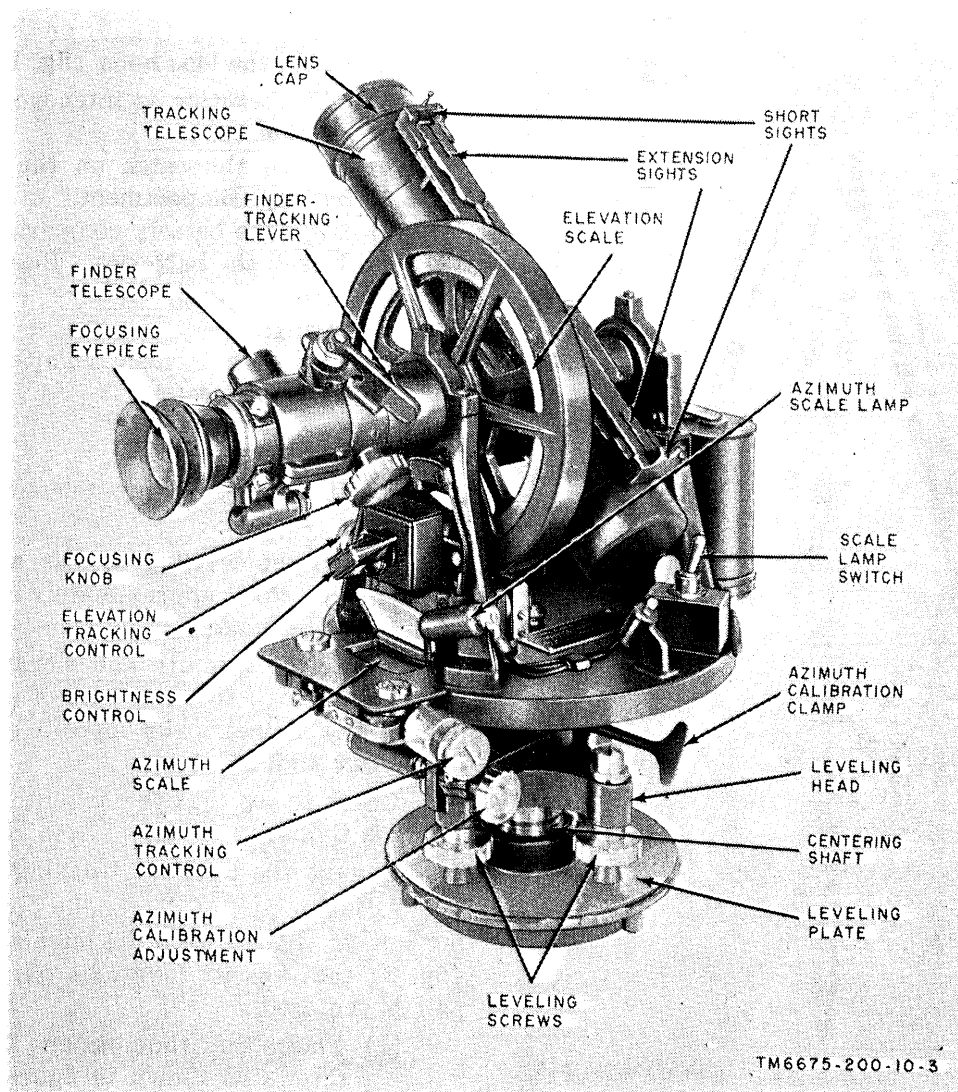

Figure 4. Theodolite, view of controls, scales, and indicators.
12. Orienting Controls and Indicators (fig. 4)
13. Operating Controls and Scales (fig. 4)
a. Disengage the azimuth tracking control (fig. 4) by pulling it away from the azimuth scale.
d. Be sure that the azimuth calibration clamp (fig. 4) is tight.
e. Unscrew the theodolite from the base plate (fig. 1) by turning the leveling plate (fig. 4) counterclockwise.
g. Remove the lens cap (fig. 4) from the tracking telescope.
i. Place the lens cap (fig. 4) on the base plate block that held the lens hood (fig. 1).
- (1) Loosen the catch on the top of the battery compartment.
- (2) Open the battery compartment.
- (3) Install the batteries. Be sure that the base of each battery contacts the springs.
- (4) Close the battery compartment and secure the catch.
a. Position the tracking telescope (fig. 4) vertically.
17. Focusing (fig. 4)
a. Disengage the azimuth tracking control (fig. 4) by pulling it away from the azimuth and elevation mounting.
e. Engage the azimuth tracking control (fig. 4) by pushing it toward the azimuth and elevation mounting.
i. Tighten the azimuth calibration clamp and turn the azimuth calibration adjustment (fig. 4) until the compass needle lines up exactly over the S mark on the compass face.